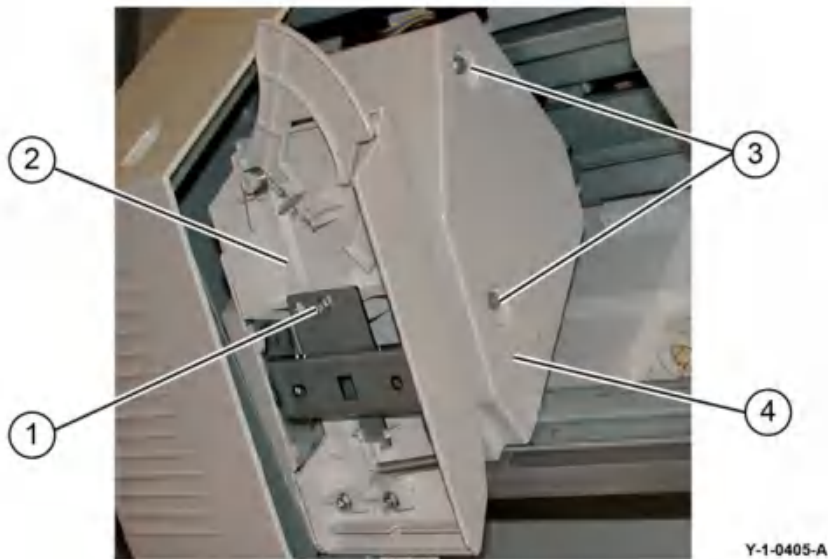

Figure 3 Preparation
4. Prepare to remove the stapler, Figure 3:
- a. Remove the screw (1).
- b. Remove the chute (2).
- c. Remove both screws (3).
- d. Remove the stapler rear cover (4).